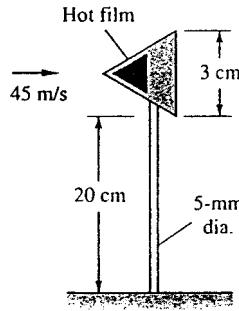

Fig. P7.93
**7.93** A hot-film probe is mounted on a cone-and-rod system in a sea-level airstream of 45 m/s, as in Fig. P7.93. Estimate the maximum cone vertex angle allowable if the flow-induced bending moment at the root of the rod is not to exceed 30 N·cm.